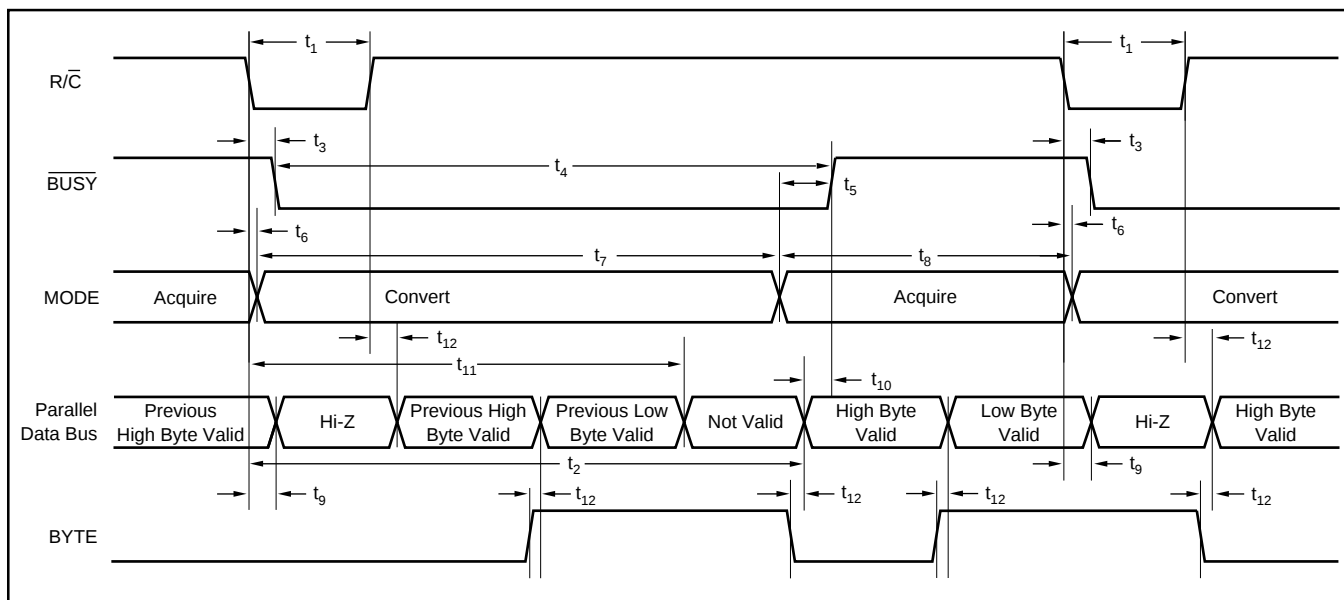

FIGURE 2. Conversion Timing with Parallel Output ($\overline{\text{CS}}$ and DATACLK tied LOW, $\overline{\text{EXT/INT}}$ tied HIGH).
The ADS7807 will begin tracking the input signal at the end of the conversion. Allowing 25μs between convert commands assures accurate acquisition of a new signal. Refer to Tables II and III for a summary of $\overline{CS}$, $R/\overline{C}$, and $BUSY$ states, and Figures 2 through 6 for timing diagrams.
NOTE: (1) See Figures 2 and 3 for constraints on data valid from conversion 'n – 1'.
After conversion 'n' is completed and the output registers have been updated, $\overline{\text{BUSY}}$ (pin 24) will go HIGH. Valid data from conversion 'n' will be available on D7-D0 (pins 9-13 and 15-17). $\overline{\text{BUSY}}$ going high can be used to latch the data. Refer to Table V and Figures 2 and 3 for timing constraints.
After conversion 'n' has been initiated, valid data from conversion 'n - 1' can be read and will be valid up to $12\mu\text{s}$ after the start of conversion 'n'. Do not attempt to read data beyond $12\mu\text{s}$ after the start of conversion 'n' until $\overline{\text{BUSY}}$ (pin 24) goes HIGH; this may result in reading invalid data. Refer to Table V and Figures 2 and 3 for timing constraints.